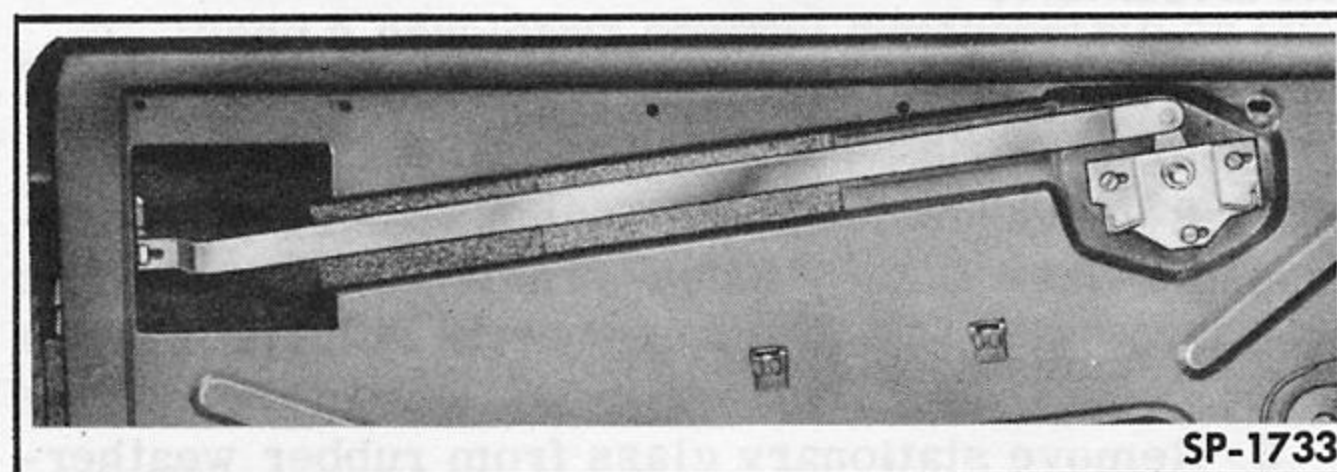

Fig. 235—Door Lock Remote Control and Link
1. Remove remote control attaching screws (see Fig. 235).